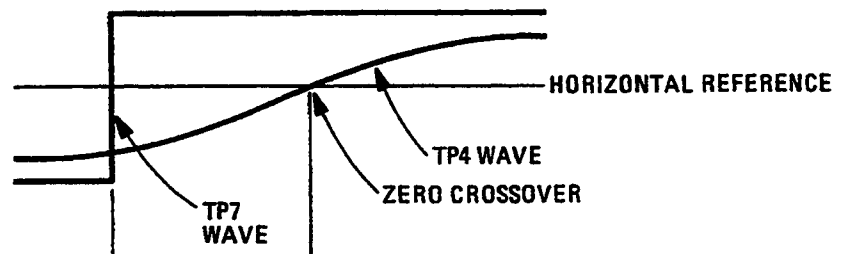

Figure 5-3. 220 Hz Zero Crossover
3. Adjust oscilloscope position controls to superimpose waveforms. Establish a horizontal grid line as dc average of the TP4 waveform by turning the HP 11683A MODE to STANDBY and positioning the Channel A trace on the line. Set the HP 11683A back to CALIBRATE. Turn the oscilloscope horizontal MAGNIFIER to $\times 10$ so that time calibration will be $50 \mu\text{s}/\text{div}$. See Figure 5-3.